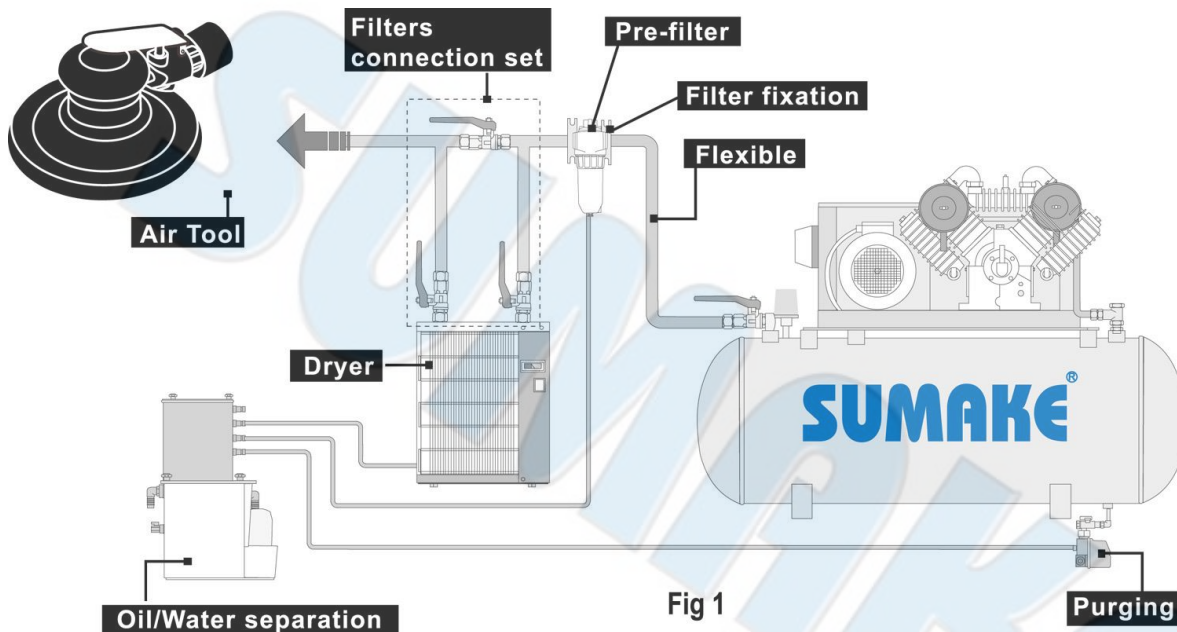

Fig 1
3. Please refer Fig.1 illustration shows the correct mode of connection to the air supply system which will increase the efficiency and useful life of the tool.
1. Dry the filter (fig1) and the air inlet of the tool.